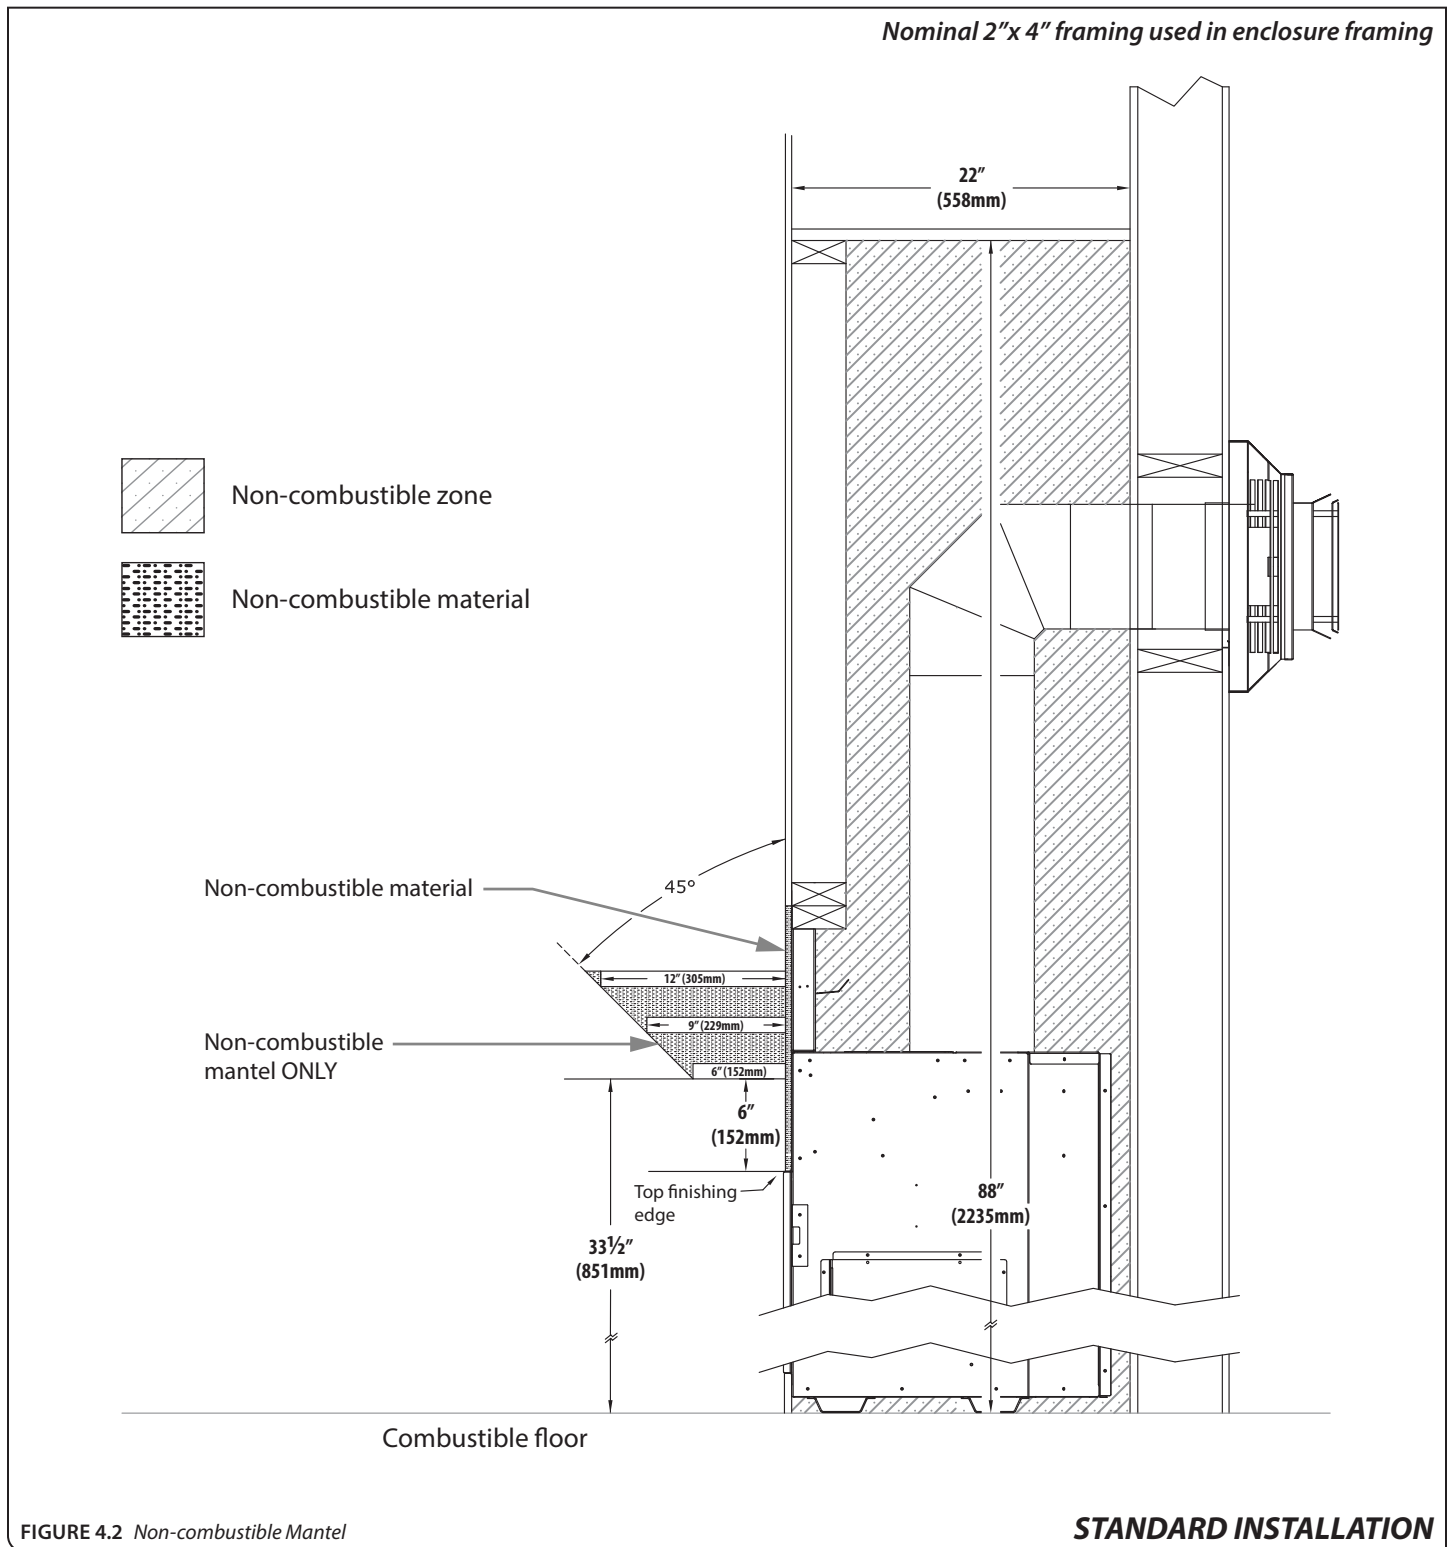

FIGURE 4.2 *Non-combustible Mantel*
- **Non-combustible Mantel Projections:** A minimum vertical clearance of 6" (152mm) above the top finishing edge to a maximum 6" (152mm) depth of a non-combustible mantel. Follow projection 1" (25mm) up for every 1" (25mm) deeper. See **FIGURE 4.2** on page 34.